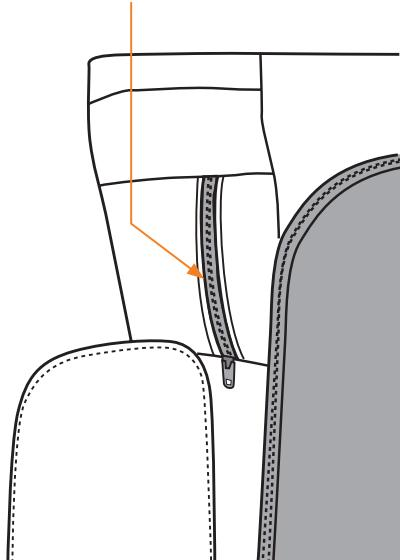

Fig.9
1. Locate the zippered pocket on the back of the body pad in the left shoulder area (Fig.9).